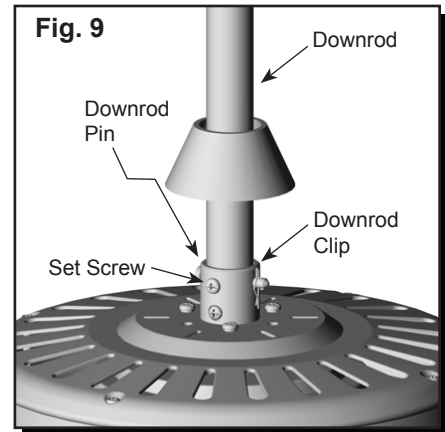

Fig. 10
10. Depending on the length of downrod you use, you may need to cut the lead wires back to simplify the wiring. If you decide to cut back the lead wires, it is suggested that you do so in the following manner: Take the lead wires and make sure that you have pulled them all the way through the top of the downrod and measure 8 in. of lead wire, and then cut the excess wire off with wire cutters (not included) (Fig. 10).